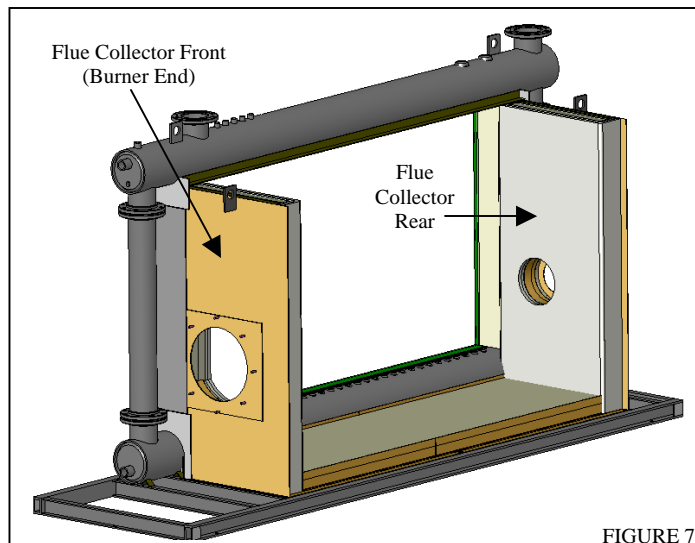

FIGURE 7
- 3.2** Install the front and rear flue collector ends. See figure 7. Once again, notice the color-code system for easy alignment and the tack welds from the factory. It is very important that you **square the front flue collector end with the base frame and tack weld into place.**